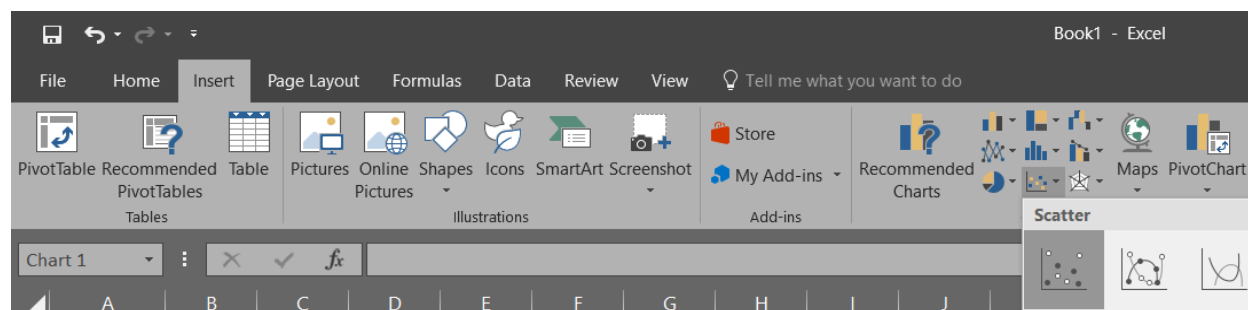

Fig. 3: Insert Scatter Plot
5. Go to Insert. Under Charts, select Scatter (Fig. 3).